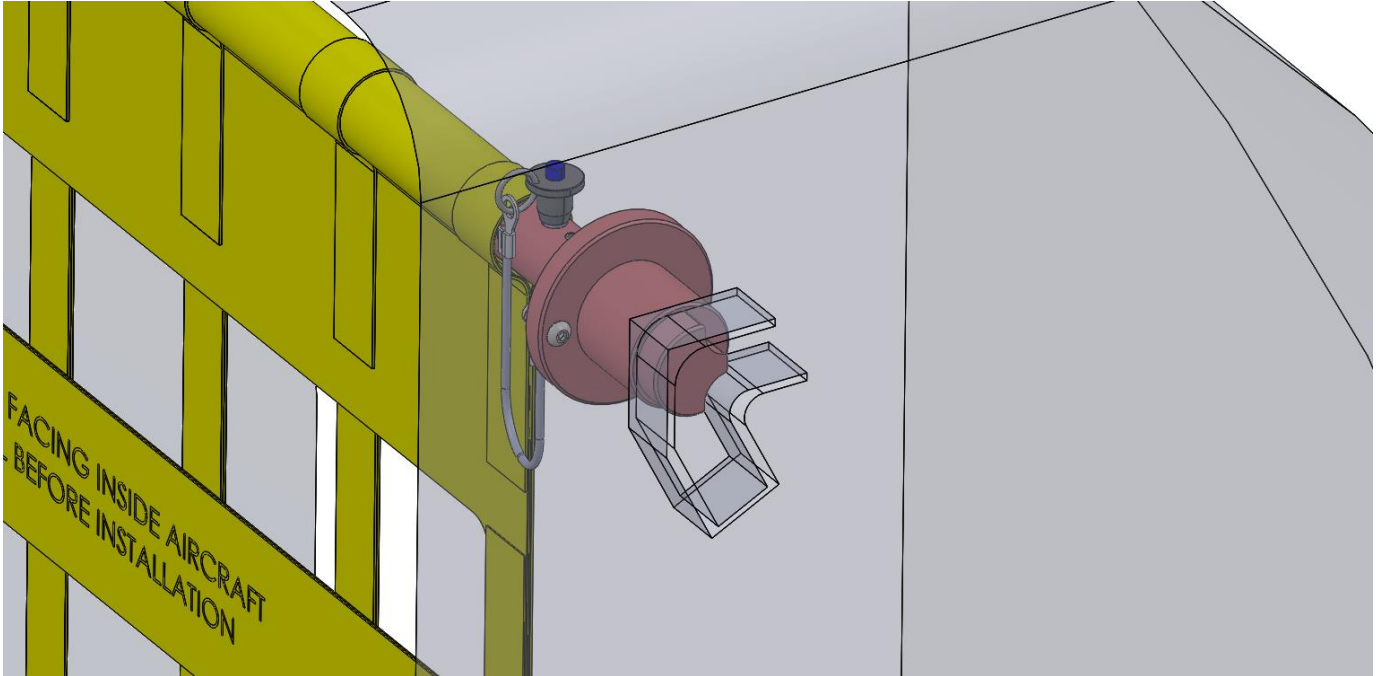

Figure 11 Sprung-Loaded Locator in position.
4.1.11 Push the Top Spring-Loaded Locator into the Top Door Bracket as shown in figure 11.